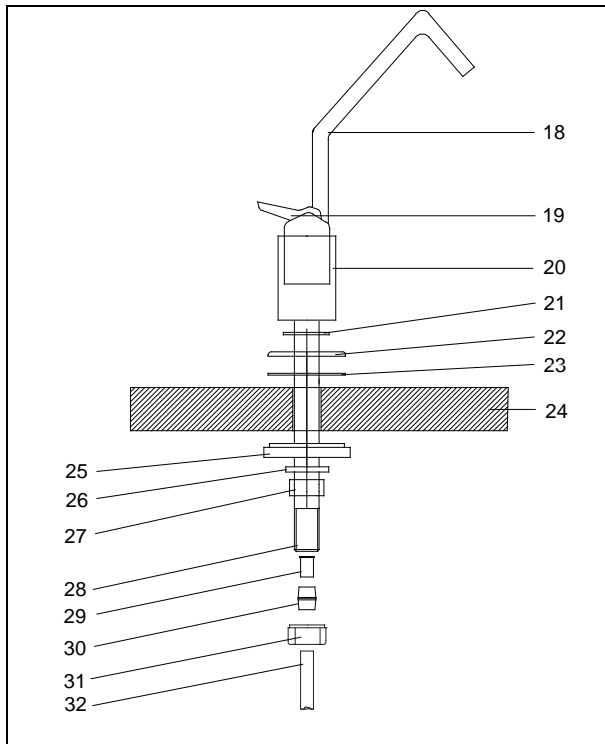

Fig. 3: Installation of the additional supply tap
The supply tap should be assembled as follows, with reference to Fig. 3:
- Introduce the retaining washer (25), the tooth washer (26) and the nut (27) according to Fig. 3.
- Lightly tighten the stiffener (29), the squeeze ring (30) with the union nut (31) onto the threaded connector (28), insert the inlet pipe (32) and tighten the union nut.